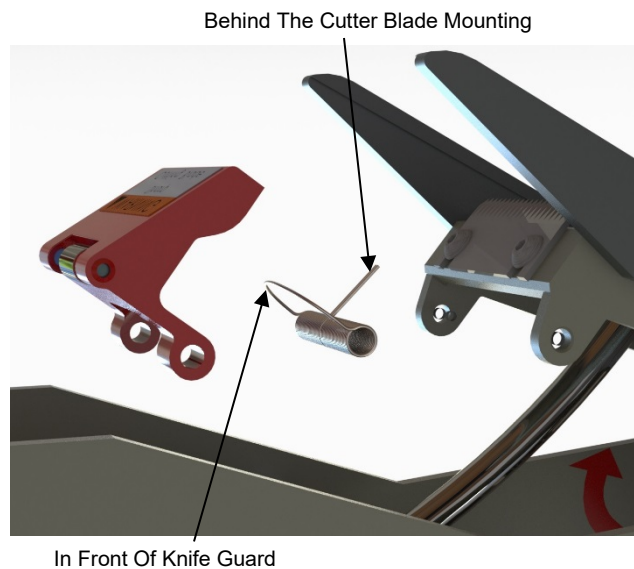

Figure 10-15
1. Position the new knife spring as shown in **Figure 10-15**.